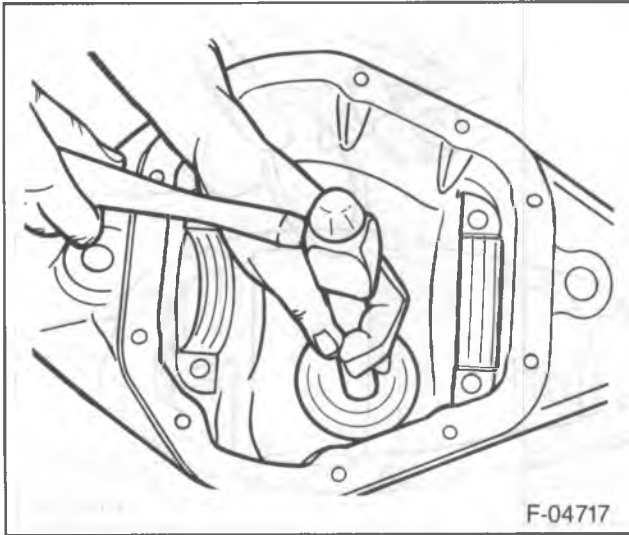

Figure 28—Installing the Pinion Inner Cup
2. Drive the inner bearing cup into the axle assembly using D-111 and C-4171. The cup must be seated on the shims (figure 28).